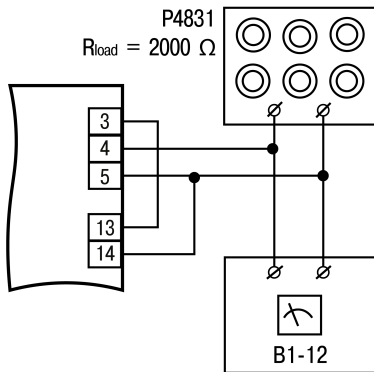

Figure 8.1 – Calibration of output voltage values
- connect the load (R_{load}) and a voltmeter to the output according to *Figures 8.1* (for output of type Y) and *8.2* (for output of type V);